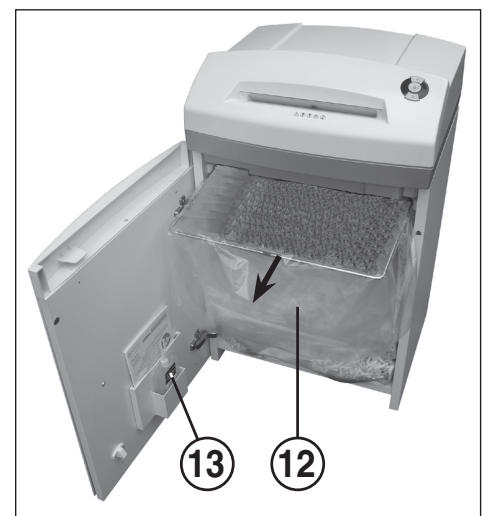

fig. 4
12 = Paper collection bag (Fig. 4)
13 = Oil reservoir (Fig. 4)
PAPER COLLECTION BAG (Fig. 4):
Open the door. The control display  (8) comes on and the reverse button (4) LED display  as well as the control display  (7) **flashes**. Remove the oil reservoir (13) (Fig. 4) from the holder in the door and close the door again.